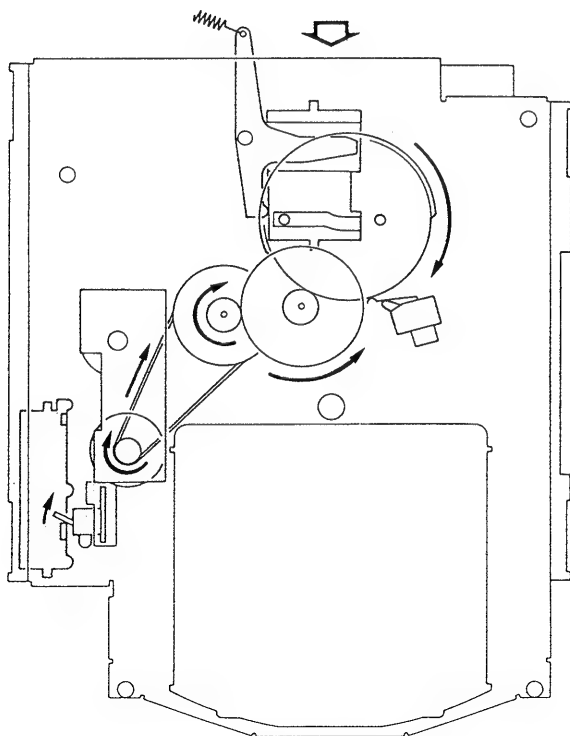

Fig. 6
- (1) Motor, pulley and gear perform the same operation as that up to the position where the drum can start to rotate.
- (2) S891 detects completion of operation by means of guide rail. (Fig. 6)